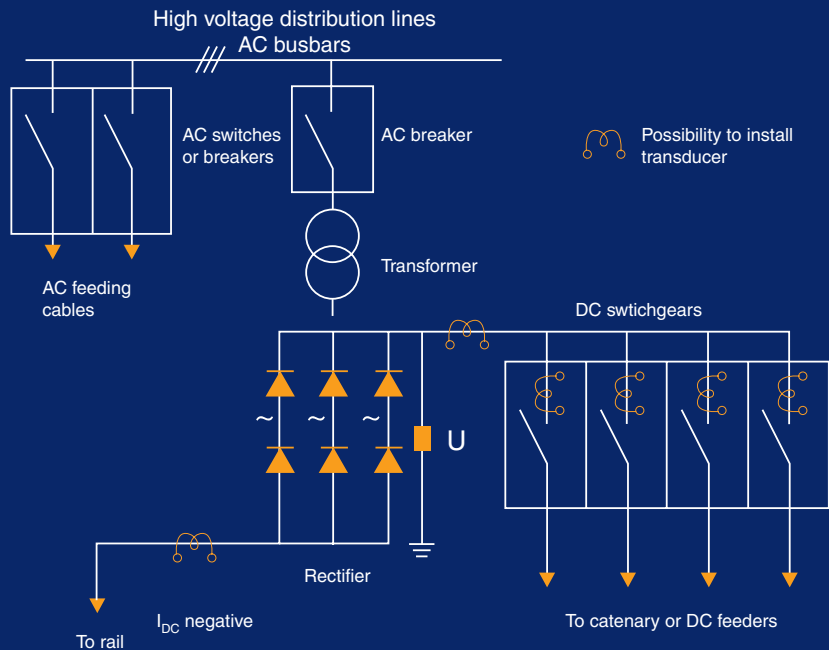

Figure 6: Typical Substation layout.
Generally, they are made up of (figure 6):
It is not unusual to find current transducers measuring earth leakage current from the rectifier to the rail (as represented in figure 6).
overcurrents while feeding relays with defined trigger levels to open the switchgear without delay (as represented figure 6).
- During medium to high impedance short circuits, the DC switchgear must open within a few hundred milliseconds. Again, the combination of the current transducer and relay will trigger the switchgear to open, however, electronic analysis of the transducer output waveform would allow further consideration and decision making (as represented figure 6).
The protection can also be ensured by measuring the current at the rectifier output using the same current transducers previously indicated., and represented in figure 6.
The voltage at the DC switchgear or the DC busbar (rectifier output) is often monitored to ensure the right voltage supplied to the catenary (The **LV 100-4000/SP2** is a possible voltage transducer solution as represented figure 6.